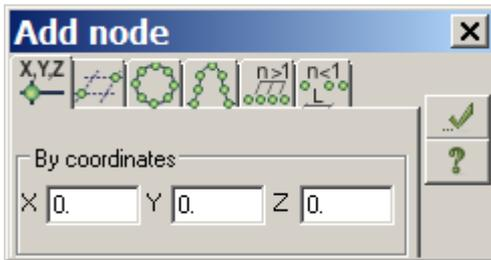

Figure 5.3 **Add node** dialog box
- ⇒ In the **Add node** dialog box (see Fig.5.3), define coordinates of the base node: